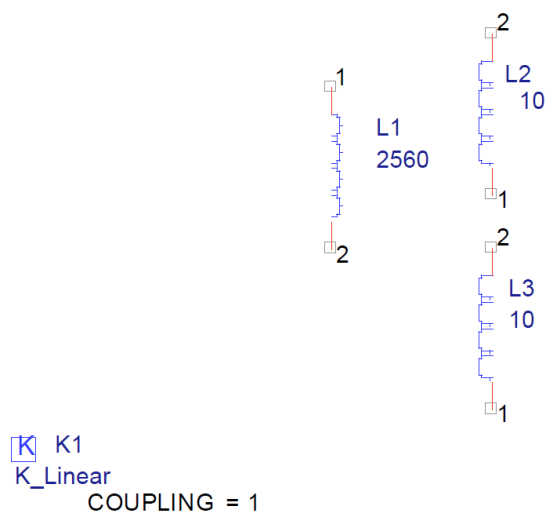

Figure 4.15
1. Place three inductors and set their values as shown in Figure 4.15 below. Also, place the part K_Linear from the Analog Library on the schematic. This part provides the coupling between the inductors, but it is not actually connected to the circuit.